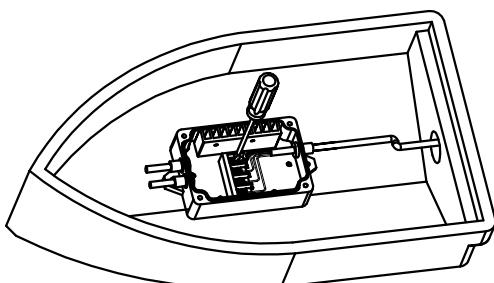

FIG 6
6. According to the wiring diagram(Ref. FIG 8), connect the power supply and switch (Ref. FIG 6). Make sure that all ports are connected correctly, turn on the power and test the function.